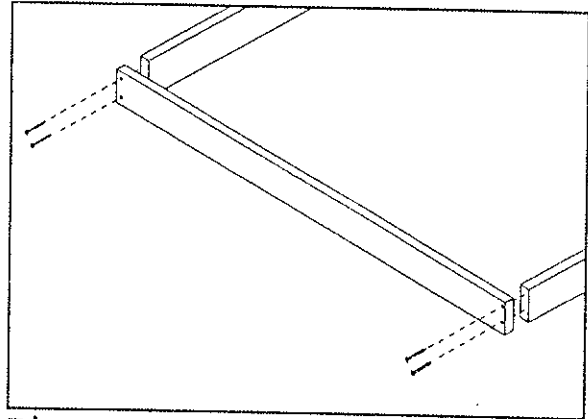

Figure 2
2. Screw the sides together using No. 12 x 2 inch wood screws to join the frame together. Fig. 2